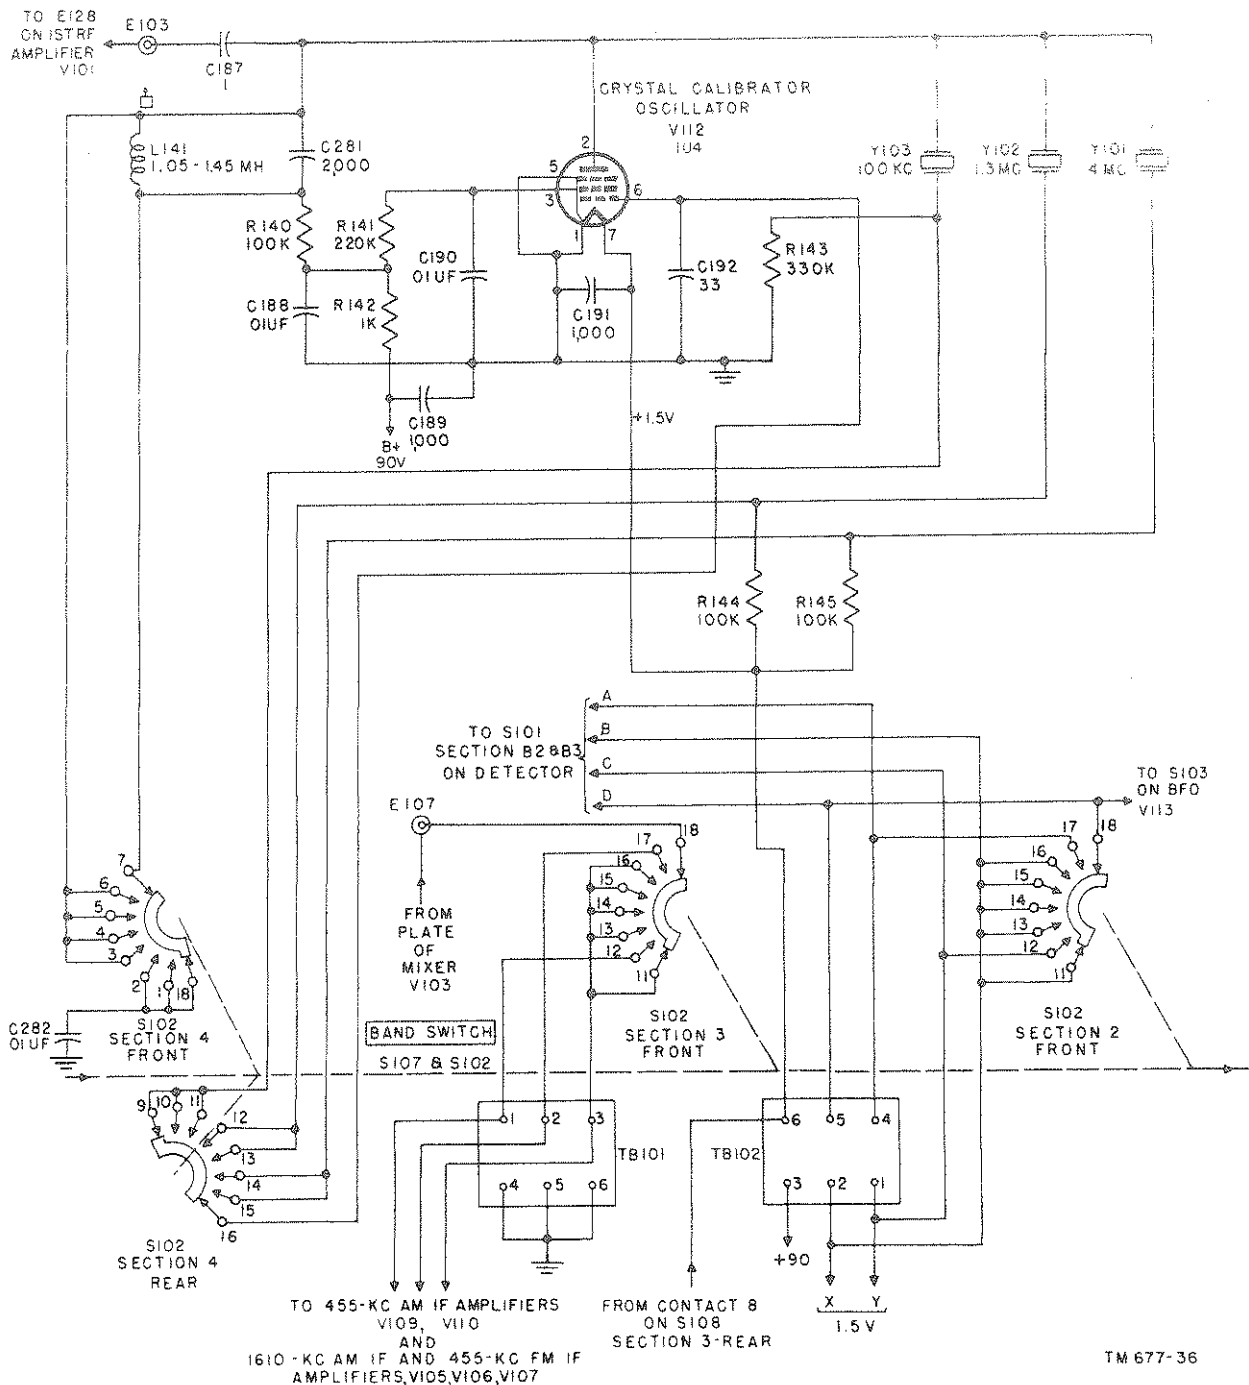

Figure 36. Radio Receiver R-395/PRD-1, functional diagram of crystal calibrator oscillator.
73. Crystal Calibrator Oscillator (fig. 36)